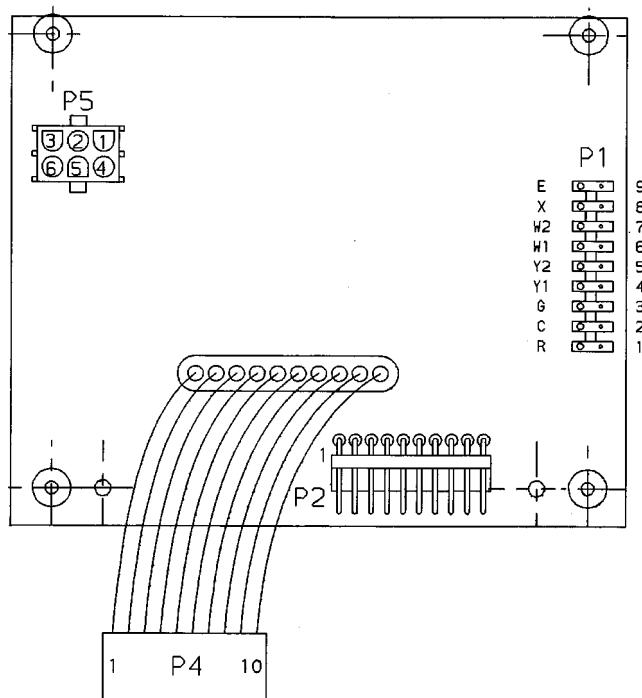

Fig. 52 — Economizer Board
2. Check continuity between points shown below. (See Fig. 52 for identification of points on the board.)